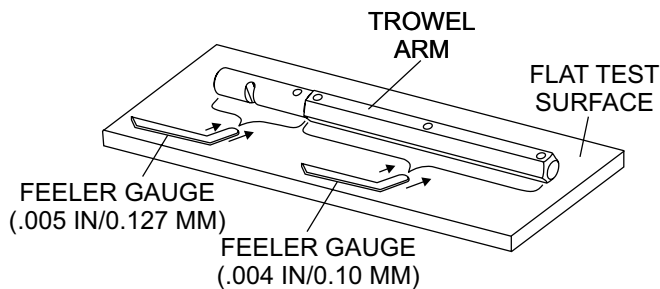

Figure 55. Checking Trowel Arm Flatness
1. Use a thick steel plate, granite slab or any surface which is true and flat, to check all six sides of each trowel arm for flatness (Figure 55).